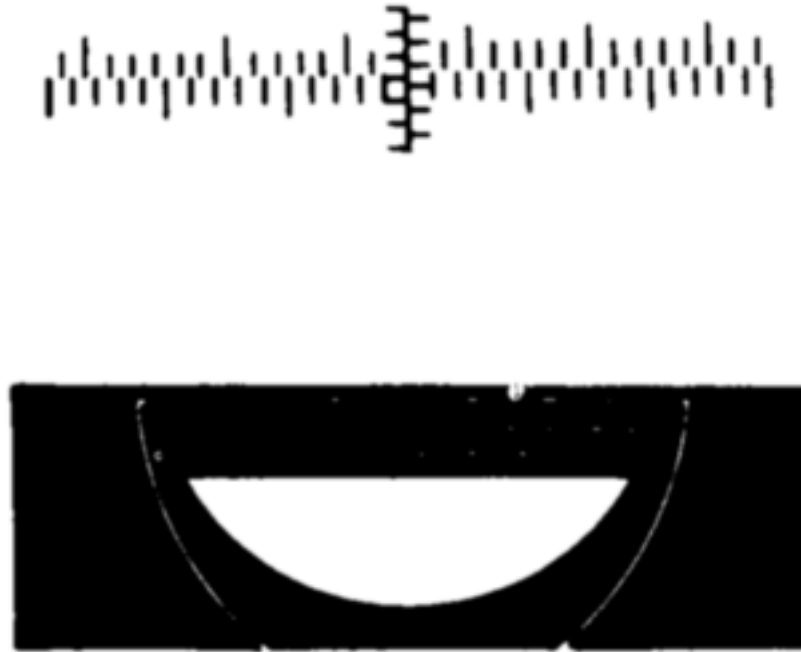

Figure 39. Half stadia picture.
b. Stadia Lines. The stadia lines in the sight reticle are a readily available means of estimating range (fig. 38). These lines are developed from the mil relation formula and are designed to enable the gunner to estimate range to targets having a 10- or 20-foot dimension. Most tanks are approximately 10 feet wide and 20 feet long. To estimate range, the gunner adjusts the lay of the rifle until the target exactly fits between the stadia lines. The point on the vertical (range) line of the reticle, that corresponds to the center of mass of the target, indicates the range. The target in figure 38 is at a range of 275 meters. On targets showing more of the flank than the front, a full stadia picture is used. If more of the front than the flank is shown, a half stadia picture is necessary (fig. 39). It is important to remember that a deflection adjustment must be made from a half stadia picture to obtain the correct sight picture for target engagement.